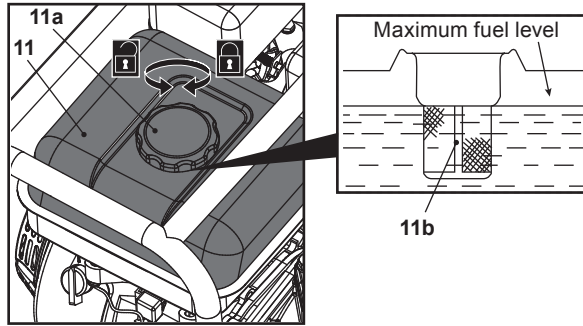

Fig. 5
- Unscrew and remove the fuel tank cap (11a) (Fig. 5).